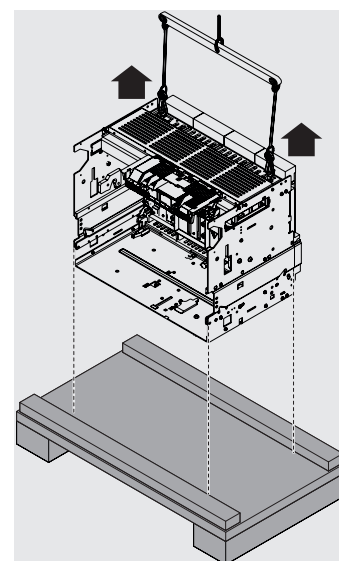

Figure 16
1. Lift the fixed part from the base of the package using the purpose-made lifting points of the fixed part. See Figure 16.